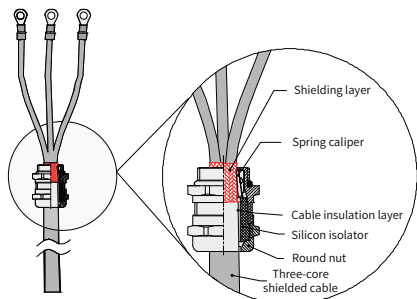

Figure 17 Connecting the shielding layer and shielded waterproof connector
- To ensure conductive continuity of the shielding layer, the shielding layer must be well connected with the high-voltage input shielded waterproof connector of the drive in 360°, as shown in Figure 17. The connection method for two-core shielded cables is similar to that for three-core shielded cables.
connector of the drive in 360°, as shown in Figure 17.